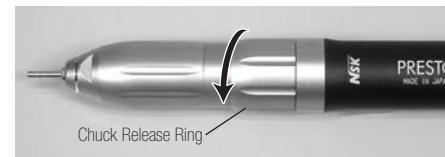

Fig. 9
- When removing the bur, it can be removed by turning the chuck release ring in the direction of the arrow in Fig.9.